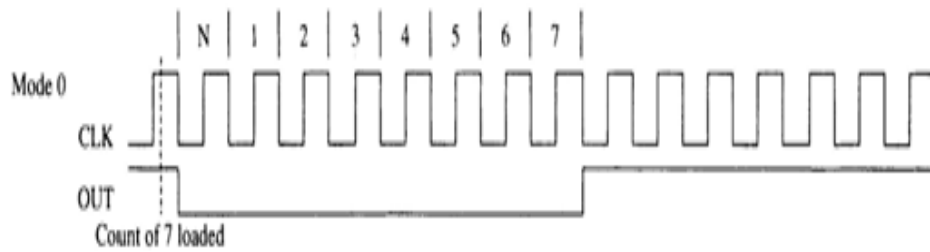

Figure 89 : Timinng diagram - MODE 0
2. After the Control Word is written, OUT is initially low and remains low (Figure 89).